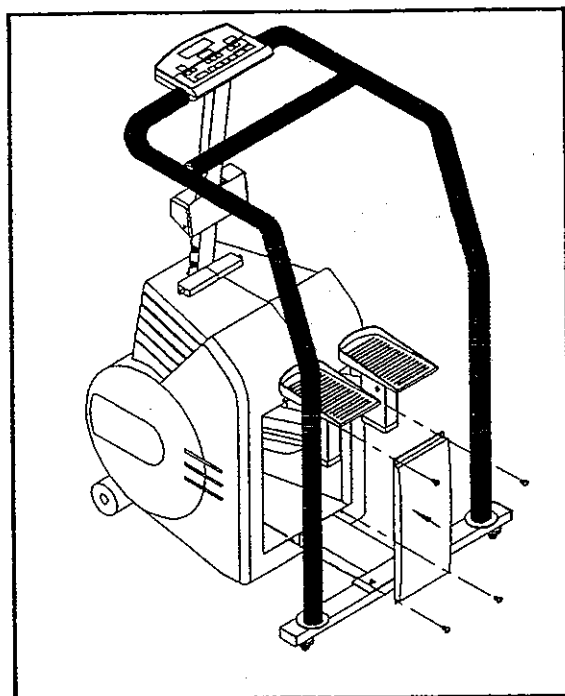

Fig. 15
5. Secure the front cover with the four screws (see Fig. 15).